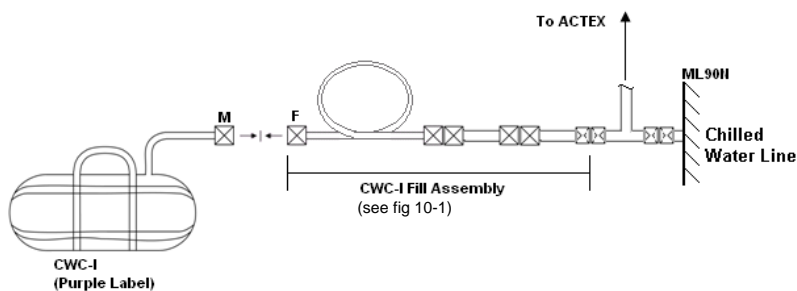

Figure 10-5.- CWC-I fill setup.
4. CWC-I →|← CWC-I Fill Assembly (see fig 10-5)